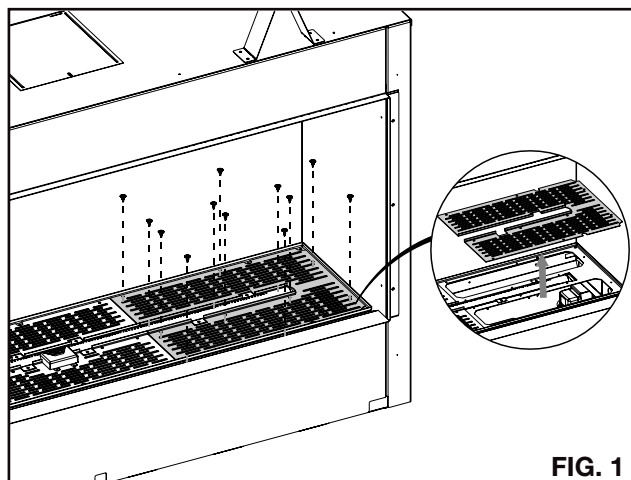

FIG. 1
1. Assemble the control switch. (FIG. 1)
4. Remove the screws securing the right access panel and lift it out of the appliance. (FIG. 1)